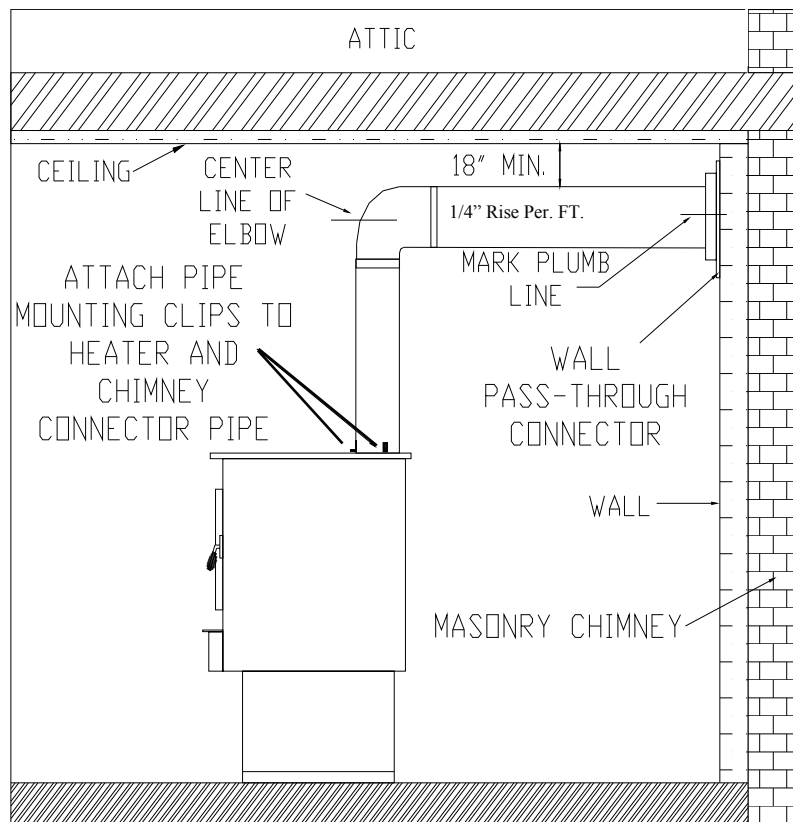

FIGURE 7
- b. Mounting clips attached to heater and chimney pipe, See Figure 7 on Page 15.
3. Measure up so there will be at least 1/4" rise per foot of horizontal connector pipe, maintaining clearances to the ceiling as noted in Figure 7. This will give you the center of the hole for the chimney penetration.
5. Connect the chimney pipe to the tee-box using #24 ga. minimum blued or black steel pipe. (DO NOT use galvanized pipe.) Each section should fit into the section below or into the opening on the stove, for drip-free operation. Secure each section together by using at least three (3) sheet metal screws or rivets.